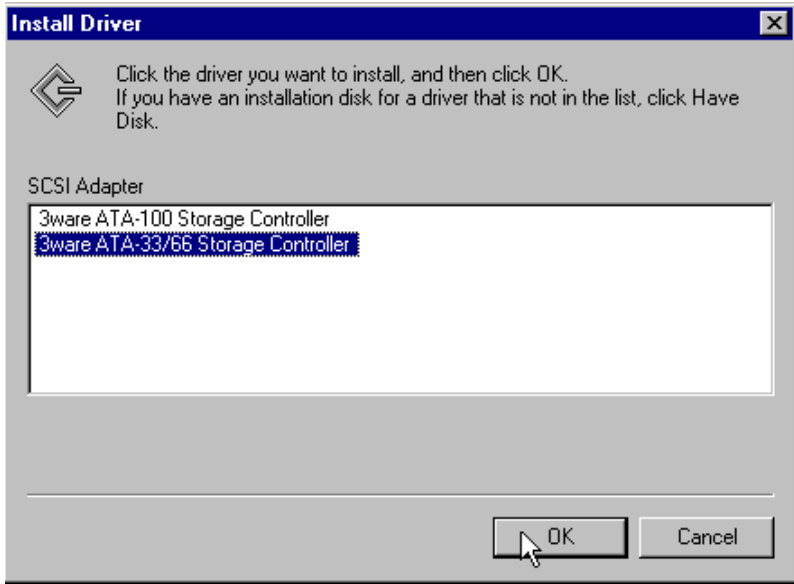

Figure 24. Install Driver
- 4 The **Install Driver** (Figure 24) dialog box appears. Click on the **3ware Storage Controller** listed in the dialog box to highlight it, then click on **OK**. Be sure to select the correct controller listed, otherwise the driver update will not be successful. A progress bar appears briefly, followed by a **System Settings Change** dialog.